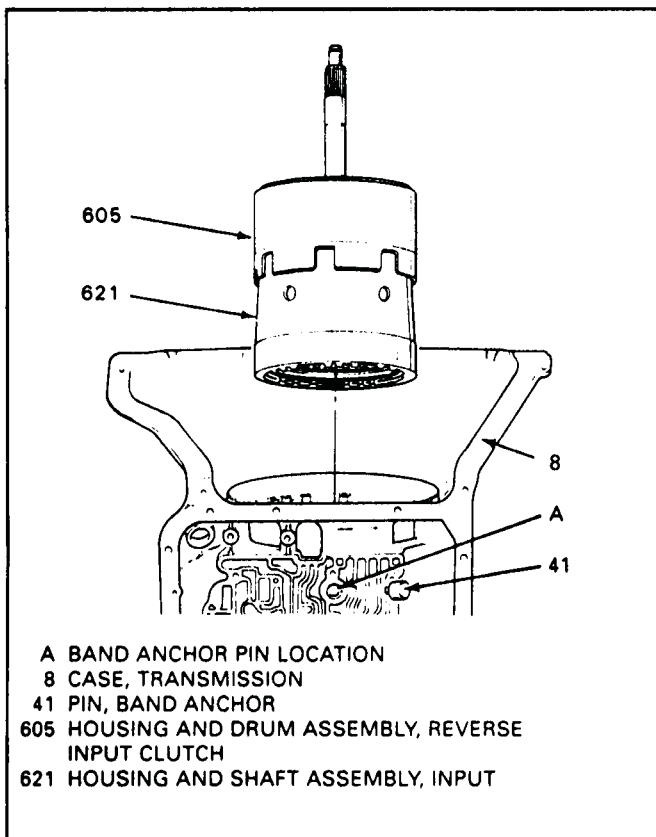

Figure 132
6. Install the reverse input and input clutch assembly into the transmission case as shown in Figure 132.